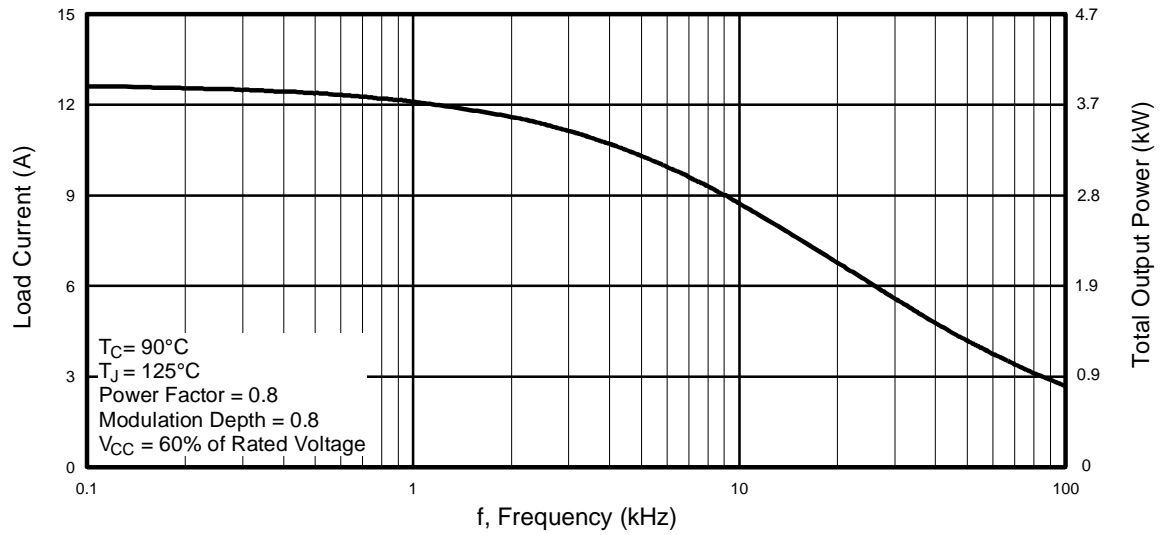

Fig. 1 - RMS Current and Output Power, Synthesized Sine Wave
- See Fig. 1 for Current vs. Frequency curve
8.8 A_{RMS} per phase (2.7 kW total) with T_C = 90 $^{\circ}$ C, T_J = 125 $^{\circ}$ C, Supply Voltage 360Vdc, Power Factor 0.8, Modulation Depth 80% (See Figure 1)